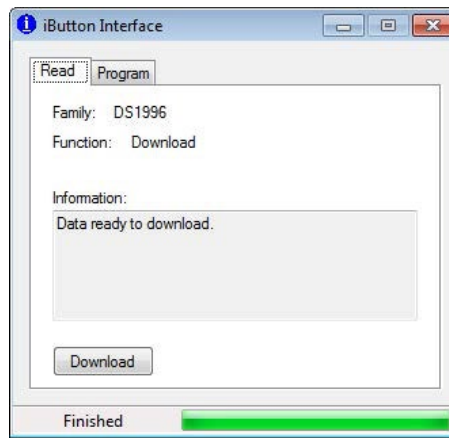

Figure 19
2. Click on the READ tab. In the information box it will show Data ready to Download (Figure 19).